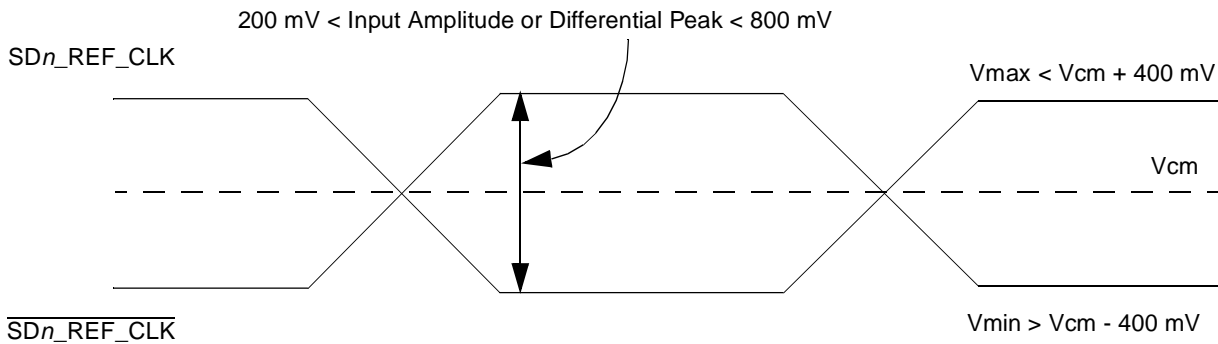

Figure 43. Differential Reference Clock Input DC Requirements (External AC-Coupled)
- For **external AC-coupled** connection, there is no common mode voltage requirement for the clock driver. Since the external AC-coupling capacitor blocks the DC level, the clock driver and the SerDes reference clock receiver operate in different command mode voltages. The SerDes reference clock receiver in this connection scheme has its common mode voltage set to $SGND_SRDSn$. Each signal wire of the differential inputs is allowed to swing below and above the command mode voltage ($SGND_SRDSn$). Figure 43 shows the SerDes reference clock input requirement for AC-coupled connection scheme.